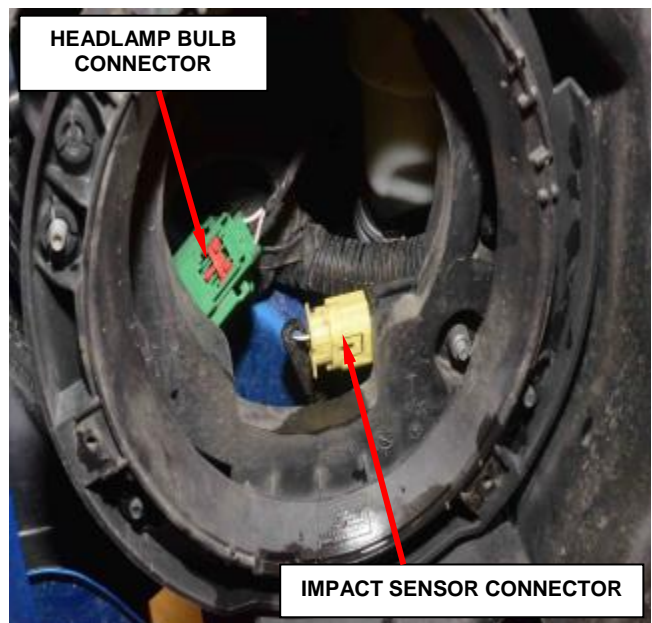

Figure 4 – Right Side Impact Sensor
9. Disconnect the engine compartment wire harness connector from the right headlamp bulb connector receptacle (Figure 4).
- Disconnect the right side engine compartment wire harness connector from the right front impact sensor connector receptacle (Figure 4).
31. Connect the right front impact sensor connector (Figure 4).